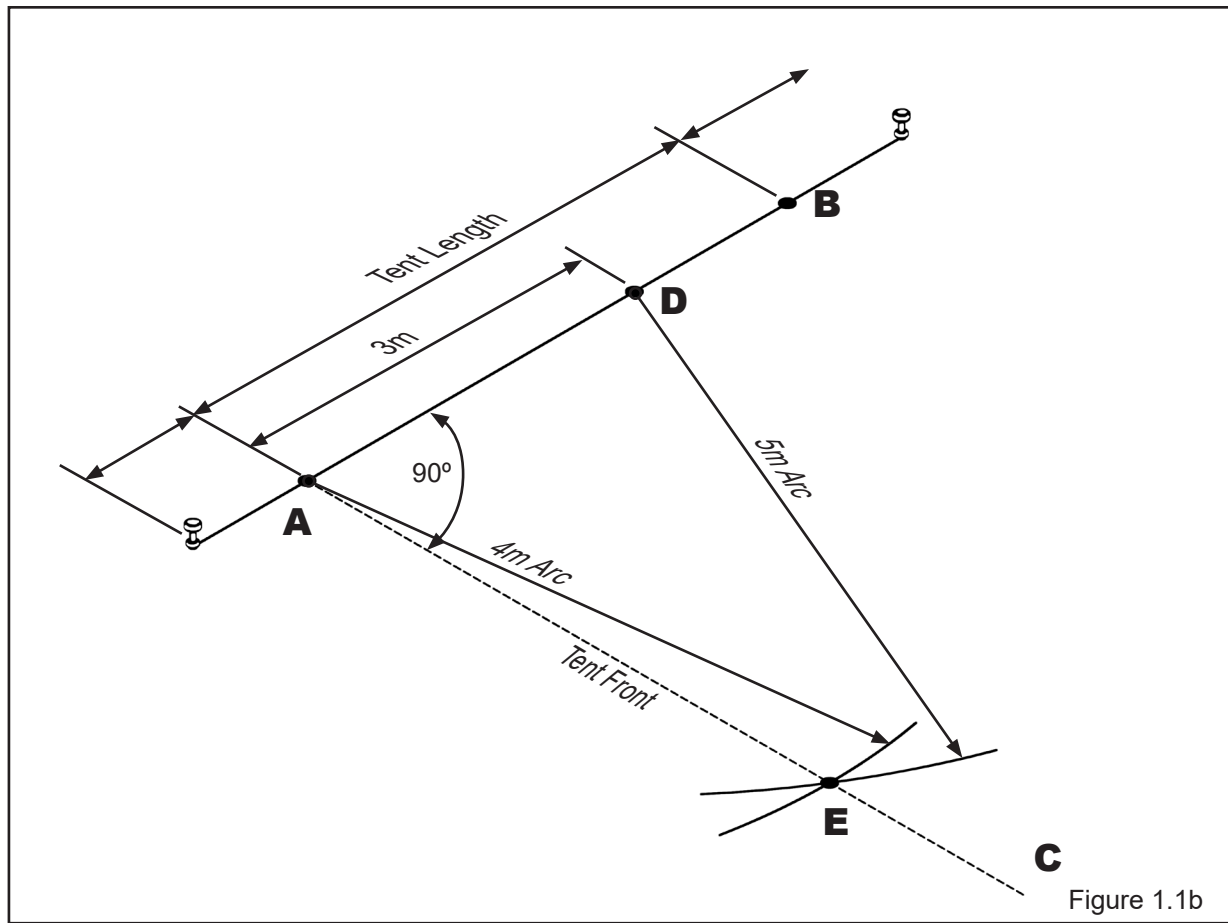

Figure 1.1b
- 1.1.2 From point A, measure 3 meters along the string line toward point B and mark this point D. See **Figure 1.1b**.
- 1.1.3 From point A, measure in the direction of Point C a distance of 4 meters. Mark on the ground an arch on a 4 meter radius from point A. See **Figure 1.1b**.
- 1.1.4 From point D, measure toward the arc just made in step 1.1.3 a distance of 5 meters. Mark on the ground another arc on a 5 meter radius from point D and intersecting with the first arc made in step 1.1.3. Where these two arcs intersect, mark this point E. See **Figure 1.1b**.